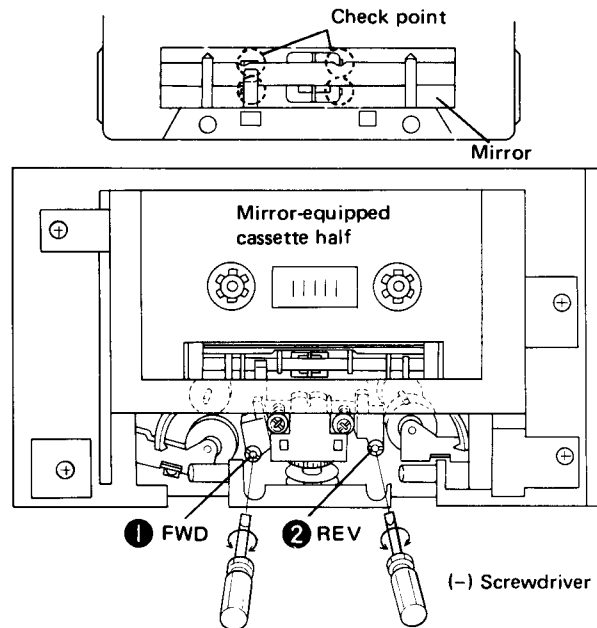

Fig. 4-4 Tape transport adjustment
3. Adjust the adjust nut ① so that no curling takes place on REC/PB head guide and erase head guide as shown in Fig. 4-4.
5. Adjust the adjust nut ② so that no curling occurs on REC/PB head guide and dummy head guide.